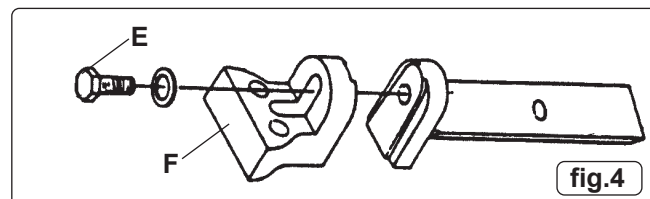

fig.4
- 6.3.2. Loosen hex bolt (fig.4.E) and pivot blade adjustment bracket (fig.4.F) until blade is perpendicular to vice bed (103).
- 6.3.3. Retighten the hex bolt (fig.4.E).